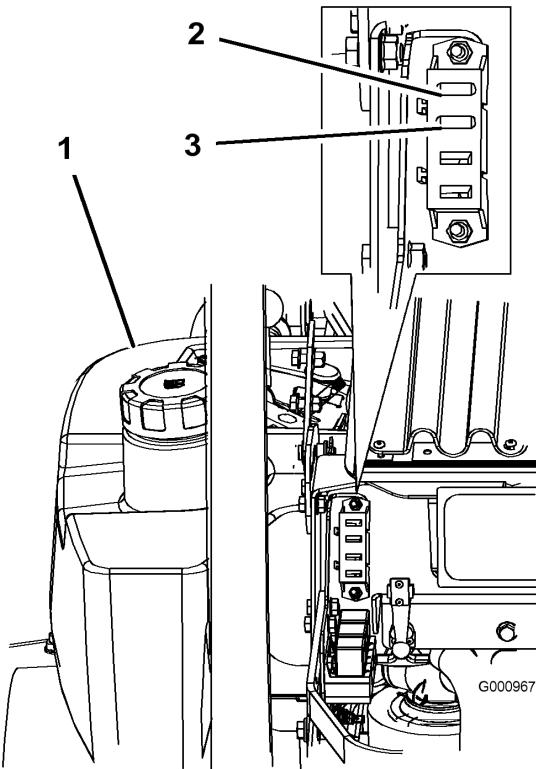

Figure 41
1. Unlatch the engine hood and raise the engine hood to gain access to fuse holder (Figure 41).
3. Install a new fuse (Figure 41).